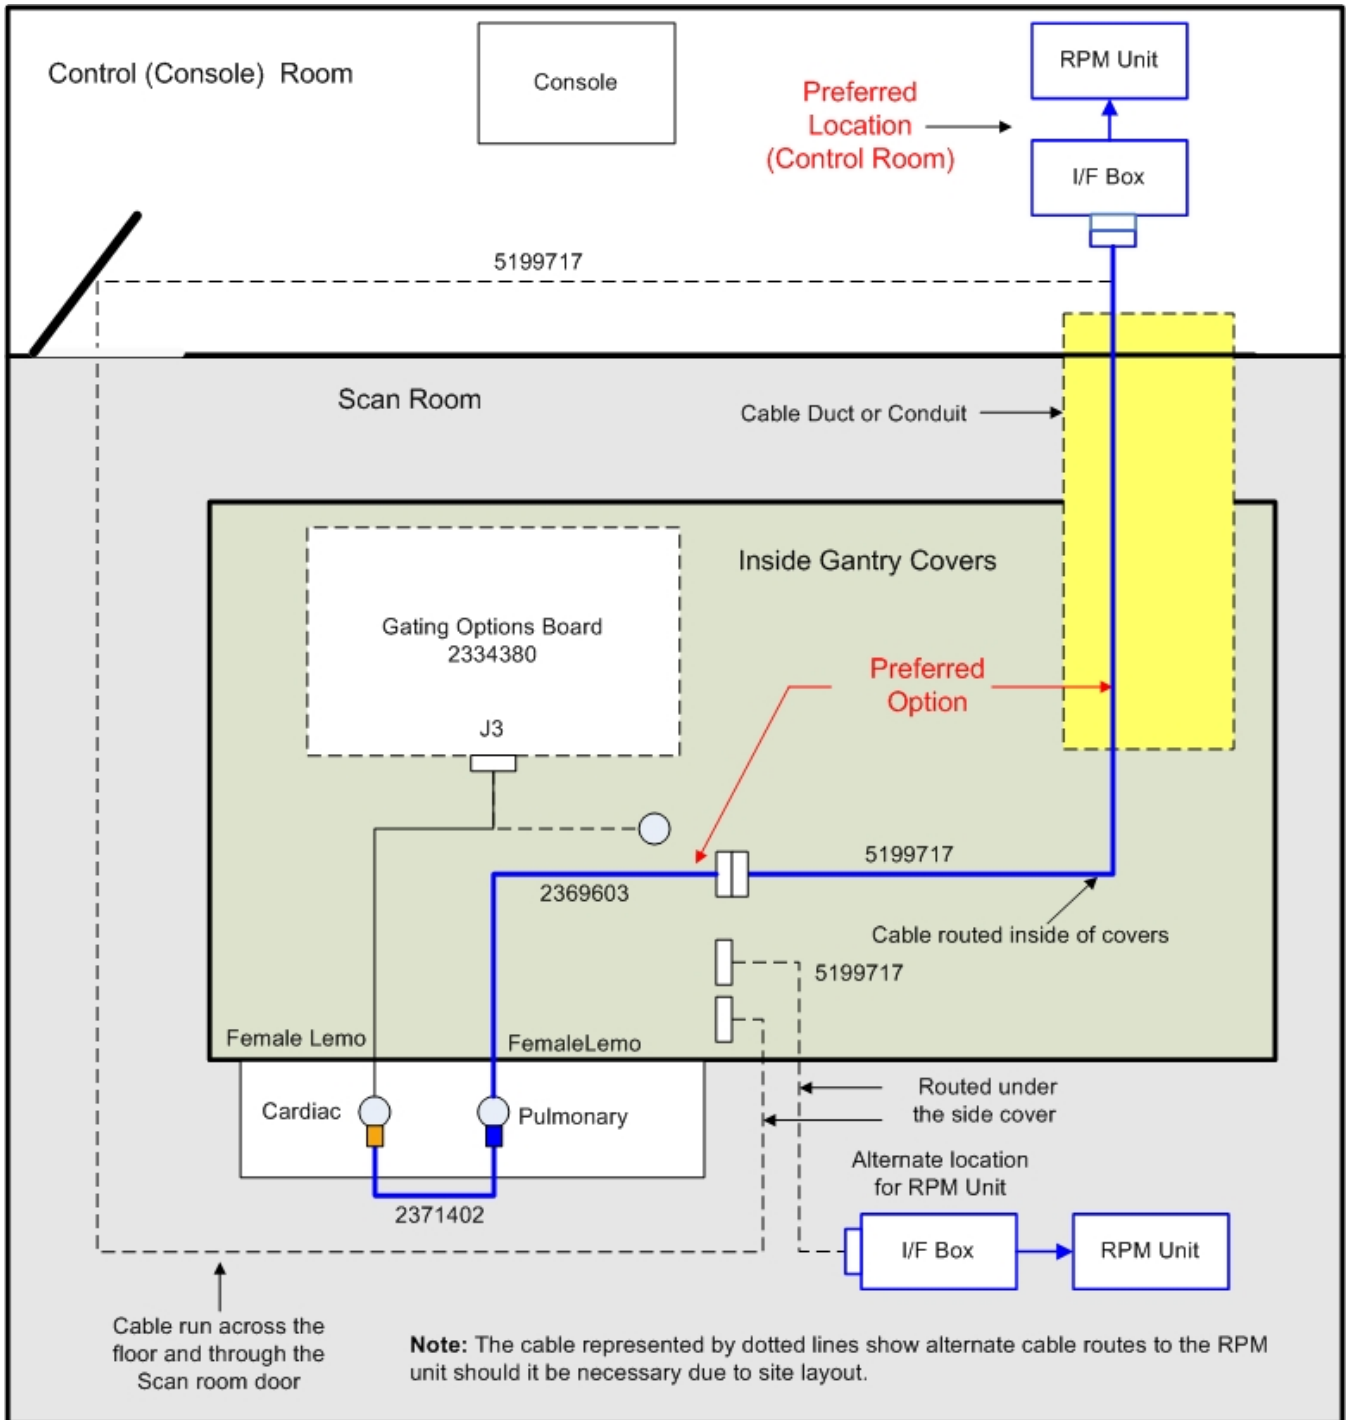

FIGURE 3-2: RPM CABLE ROUTE DETAIL
- 2. Refer to Figure 3-2 for cable 5199717 routing detail. Route this cable from the Gantry to the Sub-D J4 of the Varian CT-RPM Respiratory Gating I/F Box.